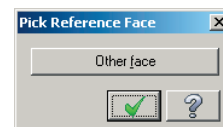
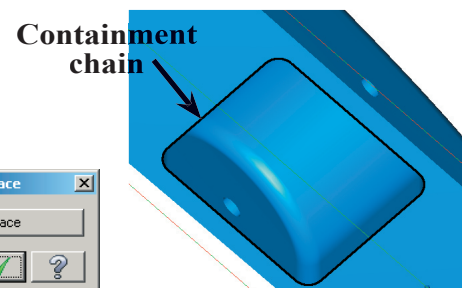

Fig. 61
Fig. 60
Step 12. Click an edge of the wheel cutout, **Fig. 60**. The edges of the bottom body face and the wheel cutout should be selected. If the wrong edges are selected, click **Other face** in Pick Reference Face dialog box, **Fig. 61**. Click the OK button  in the Pick Reference Face dialog box.